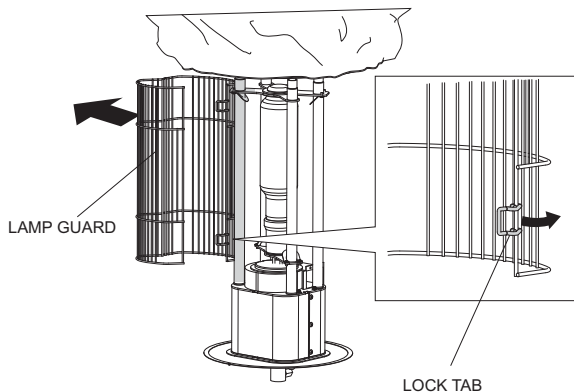

Figure 36. Removing Lamp Guard
2. Release the lamp guard locking tabs. See Figure 36.